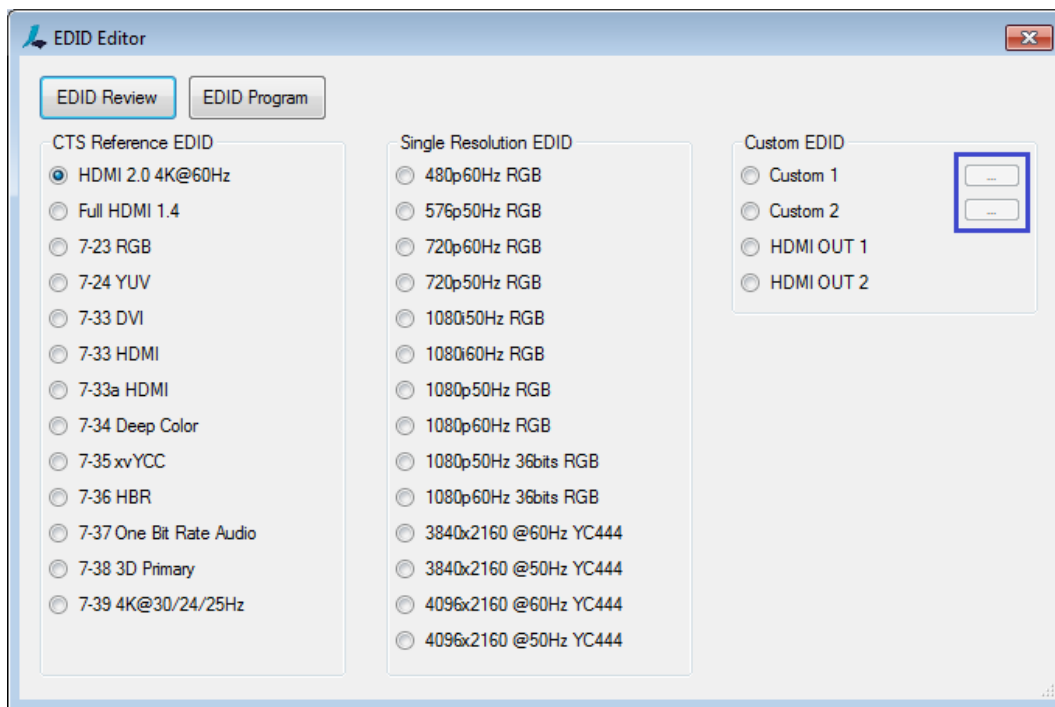
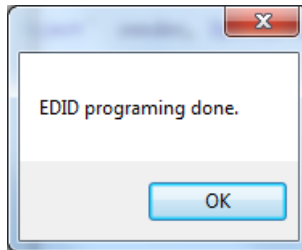

Figure 4.23. EDID Editor Test Window
Figure 4.25. EDID Program Done Dialog
2. From the EDID Editor window, select the EDID which you want to review, edit or program to the SL-881 (Figure 4.23).
To review selected EDID data, click the EDID Review button (Figure 4.23). EDID Review/Edit window appears (Figure 4.24). Contents of the EDID file are displayed.
- A. Choose Custom 1 from the Custom EDID area (Figure 4.23). If you need to load second EDID data, choose Custom 2. Custom 1 and Custom 2 can be chosen randomly.
- B. Click "..." (the blue box in Figure 4.23) to load customer's EDID data, in either binary (*.bin) or text (*.txt) format. When customer's EDID data is selected to load, the EDID Review button changes to the EDID Edit button in the EDID Editor Test window.
To program selected EDID data into EDID contents of the SL-881 HDMI IN port, click the EDID Program button (Figure 4.23). Once the programming completes successfully, a dialog pops up (Figure 4.25). Click OK.